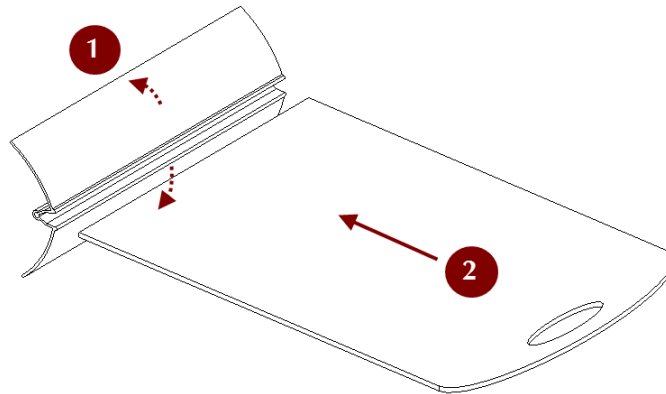

Figure 148: Assembling the rig.
3. Insert the board into the slot, as Figure 148 shows.